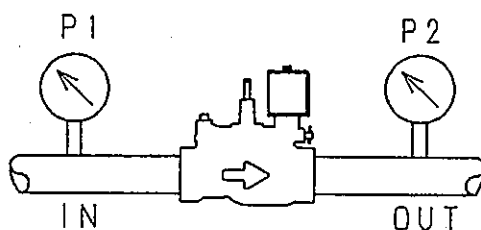

Fig. 11.
- (1) Use this solenoid valve for agricultural water or industrial water. This valve can be used with water containing liquid manure or diluted agricultural chemicals. However, the performance of the solenoid valve could be inhibited depending on the liquid.
- (2) Always stay within the specified range for the temperature of the ambient air and the water that passes through the valve.
- (3) Use within the specified pressure range. Note that the IN and OUT valve pressure difference must be 0.03MPa (bore 50 or less) or 0.05MPa (bore 65 or more) when the valve is open. (Refer to Fig. 11.)